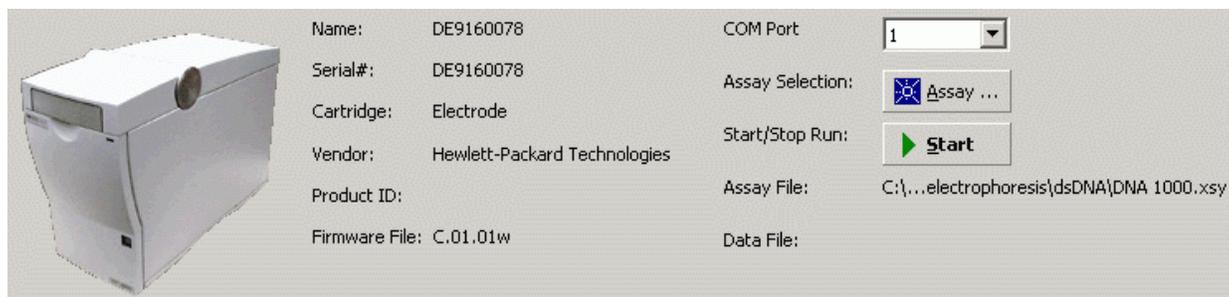

Figure 2 Bioanalyzer hardware information
If the instrument is connected successfully, additional hardware information (serial number, cartridge type,...) is displayed on top of the screen, see Figure 2, “Bioanalyzer hardware information”.
- 3 Check the icon of the Agilent 2100 bioanalyzer on the screen. If it is no longer dimmed, communication between the Agilent 2100 bioanalyzer and PC is working properly. In addition, hardware information is displayed, see Figure 2, "Bioanalyzer hardware information" on page 16.